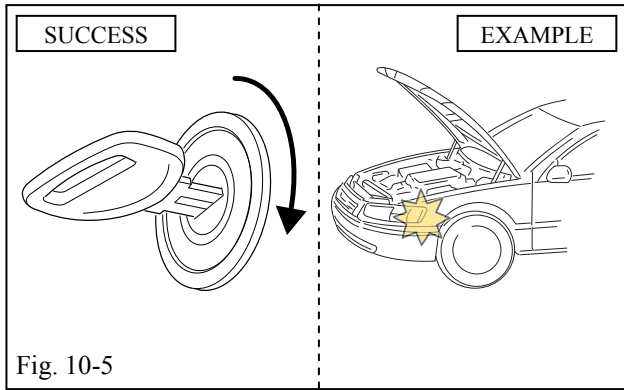

Fig. 10-5
- (h) Start the Engine. (Fig. 10-5)
- (i) After 10 seconds stop the Engine (Fig. 10-5)
- (1) The Hazard Lights flash 1 time.